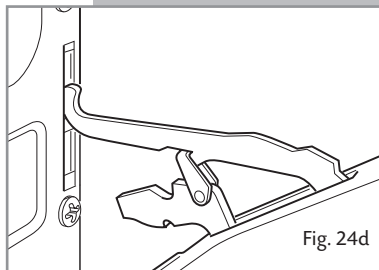

Fig. 24d
- Now pull the oven door forwards off the appliance. Release both hinge sections from the slots (fig. 24d).